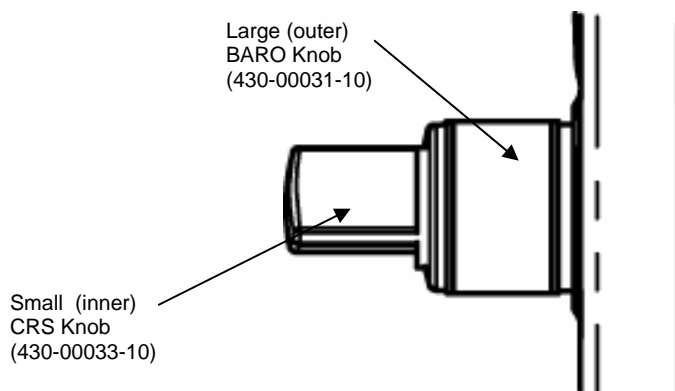

Figure 3
7. Press down firmly to ensure knob is completely seated, refer to Figure 3.
10. Press down firmly to ensure knob is completely seated, refer to Figure 3.